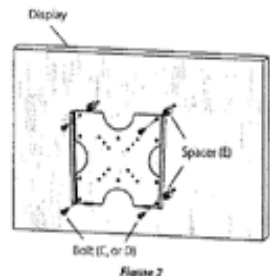

Figure 2
1. Determine which hardware to use by examining the back of your display. If your display has a flat back, use the shorter bolt (C). If your display has a curved or recessed back, use the longer bolt (D) along with the spacer (E).
2. Attach the mount to the back of your display (Fig. 2) using the holes that match the pattern on the back of your display.